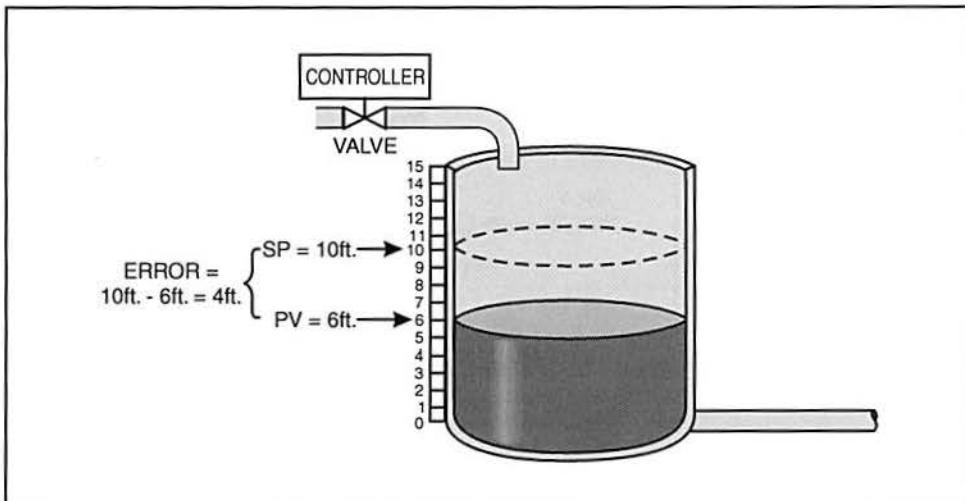

Figure 7. Error in a Process
For example, if the actual level in a tank (PV) is 6 feet of water and the setpoint (SP) is set at 10 feet, the error would be 4 feet ($10 - 6 = 4$). Therefore, in order for the PV to reach SP, the level would have to increase by 4 feet of water, as shown in figure 7.